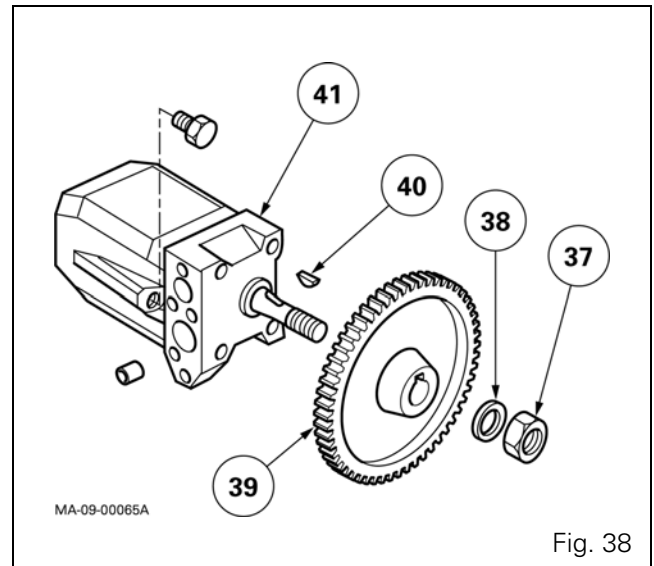

Fig. 38
- 43. Place the variable displacement pump (41) on a workbench (Fig. 38). Completely unscrew the nut (37). Recover the washer (38).
- 44. Using a suitable extractor, release and remove the driven gear (39) from the tapered section of the shaft. Recover the key (40).